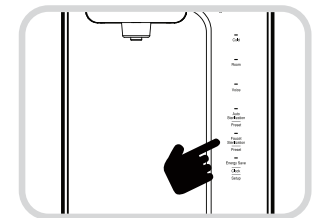

Fig. 16
2. Press the Faucet Sterilization/Preset button if the Faucet Sterilization/Preset button Display Lamp is OFF. (Fig. 16).